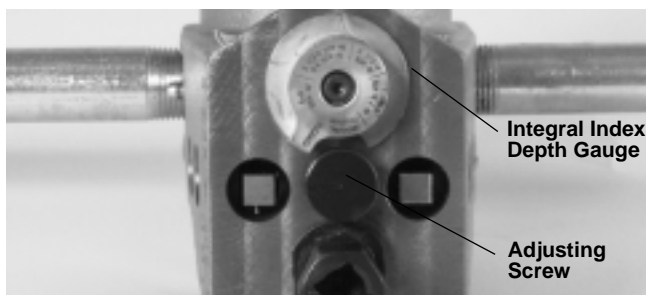

Figure 10 – Close-Up Of Integral Index Depth Gauge In Grooving Position
- Make sure the integral depth gauge is in the grooving position. (Figure 10)